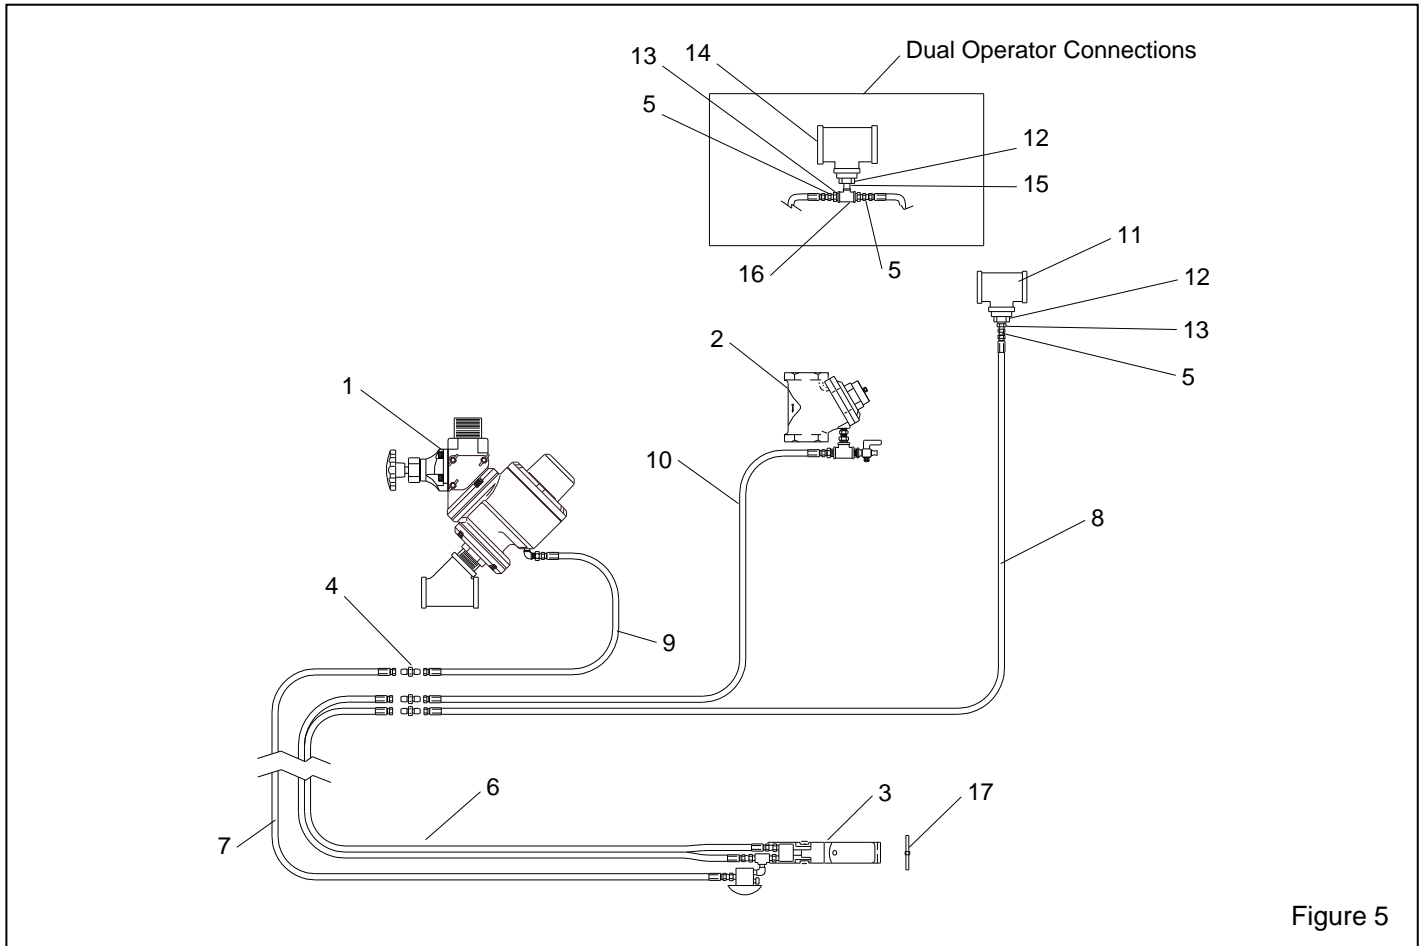

Figure 5
8.2 Quantum Remote Control System Replacement Parts, Figure 5